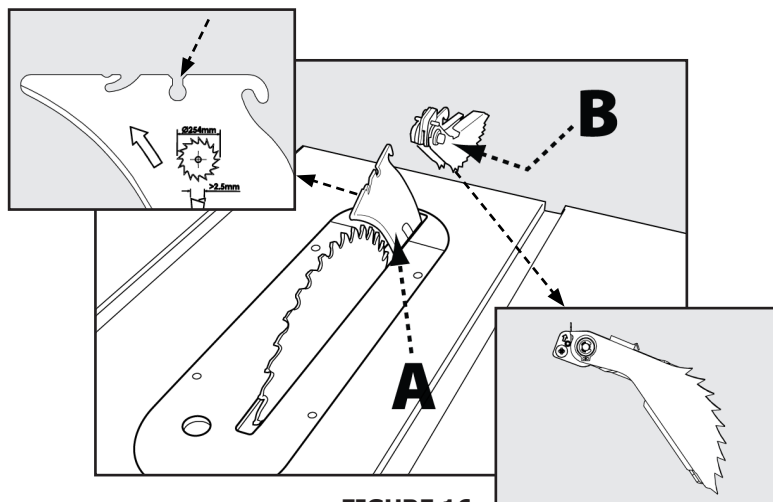

FIGURE 16
1. Refer to Figure 16 and locate the anti-kickback pawls mounting slot (A) in the middle of the top edge of the riving knife.
2. Slide slot in the middle of the anti-kickback pawls assembly along the top of the riving knife until the stem (B) locates the center slot on the riving knife.
3. Depress the stem on the anti-kickback pawls assembly (B) to allow the assembly to drop into the slot. Push down on the anti-kickback pawls assembly until it snaps into place and locks. Release stem. **NOTE:** Pull up on the anti-kickback pawls to make sure it is locked in place.